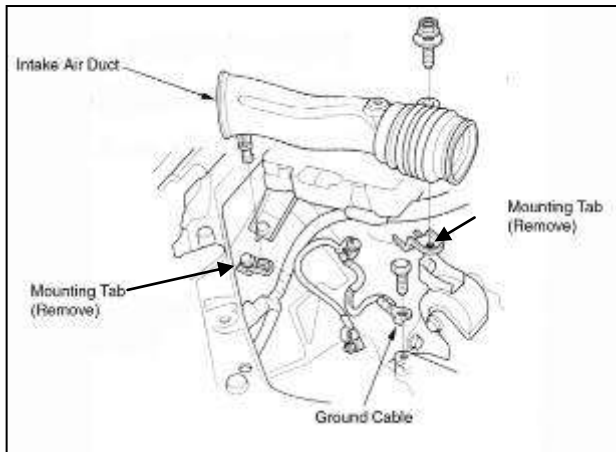

Fig. 3
- c. Remove the intake air duct by loosening the bolt at one end and then pulling the other end up out of the mounting tab. **(Fig. 3)**
- d. Remove the two intake air duct mounting tabs from the fenderwell. **(Fig.3)**